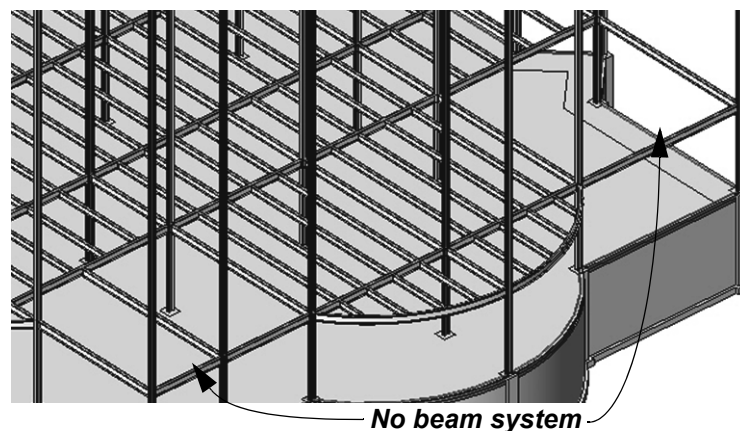

Figure 7–17
5. Click inside each bay, ensuring that the beams are running in a West-East direction. Exclude the bays on the corners of the east end shown in Figure 7–17.